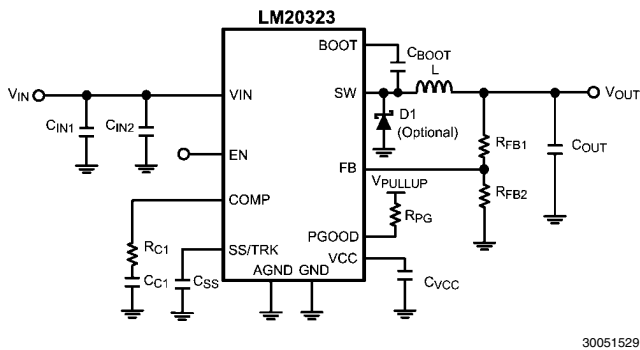

FIGURE 1. Typical Application Circuit
The LM20323 switching regulator features all of the functions necessary to implement an efficient buck regulator using a minimum number of external components. This easy to use regulator features two integrated switches and is capable of supplying up to 3A of continuous output current. The regulator utilizes peak current mode control with nonlinear slope compensation to optimize stability and transient response over the entire output voltage range. Peak current mode control also provides inherent line feed-forward, cycle-by-cycle current limiting and easy loop compensation. The 500kHz switching frequency minimizes the inductor size while keeping switching losses low allowing use of a small inductor while still achieving efficiencies as high as 93%. The precision internal voltage reference allows the output to be set as low as 0.8V. Fault protection features include: current limiting, thermal shutdown, over voltage protection, and shutdown capability. The device is available in the eTSSOP-20 package featuring an exposed pad to aid thermal dissipation. The typical application circuit for the LM20323 is shown in *Figure 1* in the design guide.
This section walks the designer through the steps necessary to select the external components to build a fully functional power supply. As with any DC-DC converter numerous trade-offs are possible to optimize the design for efficiency, size, or performance. These will be taken into account and highlighted throughout this discussion. To facilitate component selection discussions the circuit shown in *Figure 1* below may be used as a reference. Unless otherwise indicated, all formulas assume units of amps (A) for current, farads (F) for capacitance, henries (H) for inductance and volts (V) for voltages.